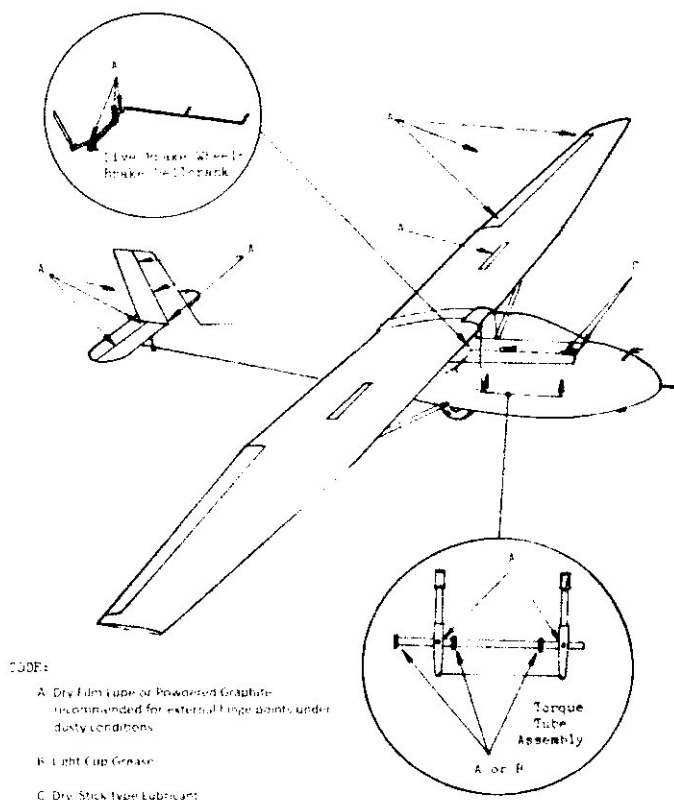

Figure 8-1 – Lubrication Chart
1. Lubrication: See Figure 8-1
Note For Ratchet Trim Equipped Sailplanes: Maintenance of the ratchet lock trim system is limited to maintaining security of attachments and periodic lubrication, with special attention to the spring-cartridge, per codes "A" and "B", Figure 8-1, Page 39. There are no field adjustments to be made to the trim system or the spring cartridge.